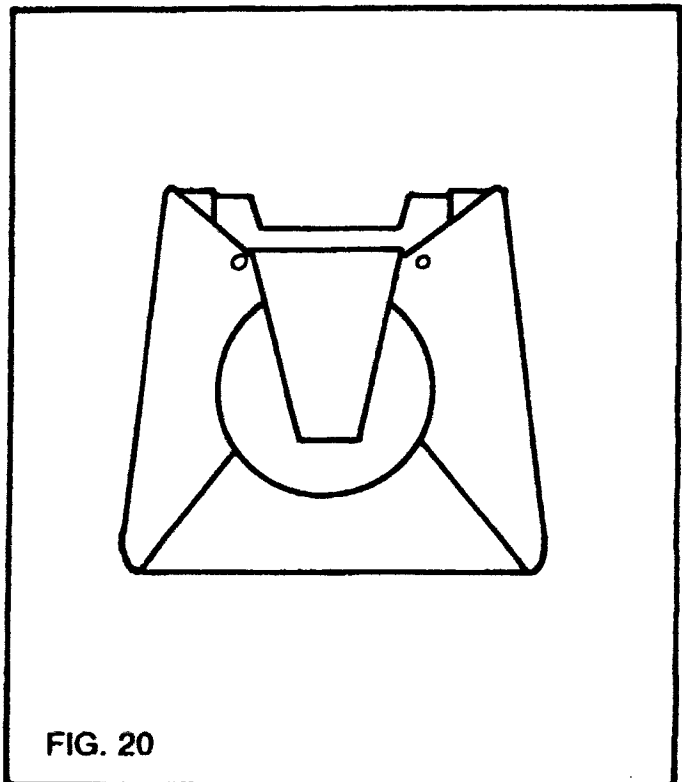

FIG. 20
14) Close the reserve pin cover, routing the RSL out the upper right corner. Any slack in the RSL may be stowed by tucking it down into the top of the reserve container or by tucking it back under the reserve top flap. The reserve container should now resemble FIG. 20.
19) Roll the pilot chute as tightly as possible so that it resembles FIG. 20.